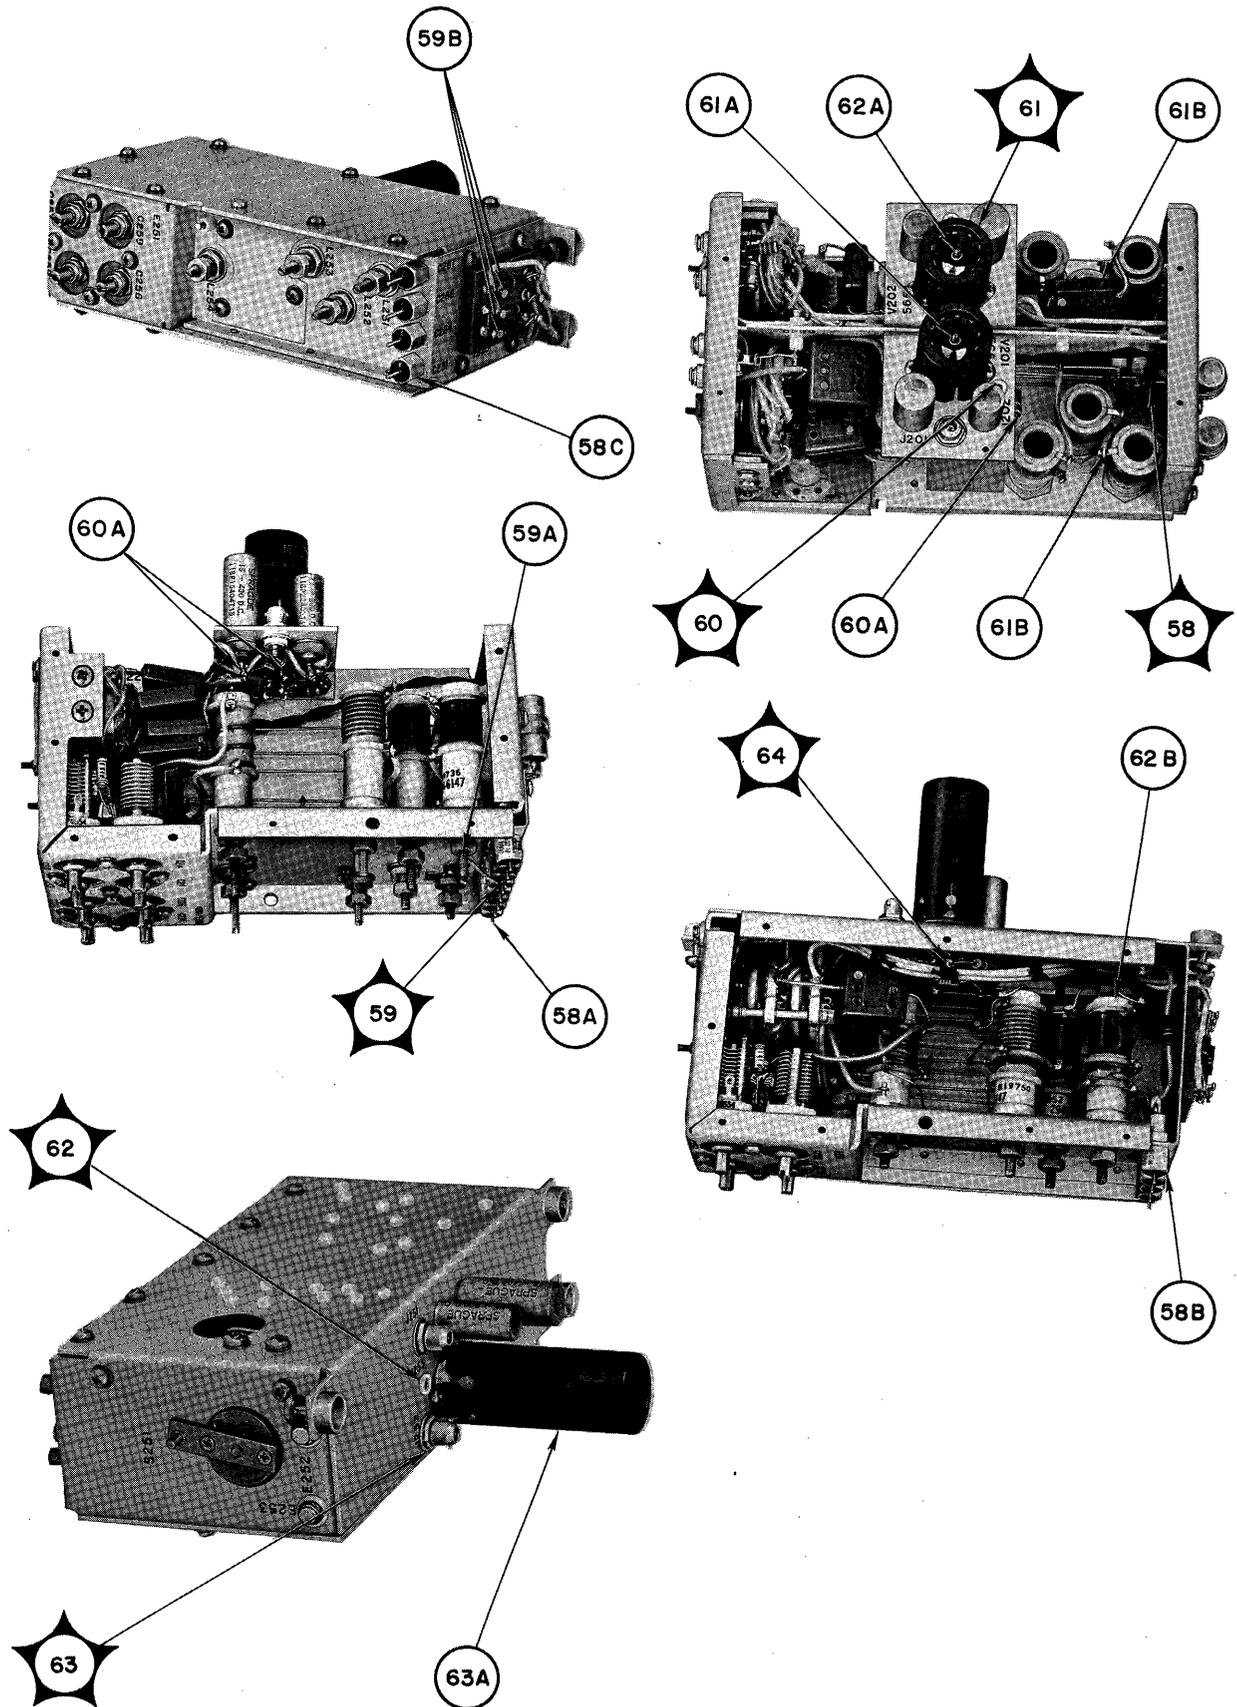

Figure 5-40. Harmonic Amplifier, Location of Test Points
f. HARMONIC AMPLIFIER TROUBLE-SHOOTING CHART.—Table 5-11 is the trouble-shooting chart for the harmonic amplifier. Perform each step in the order presented. Compare the result with information in the **NORMAL INDICATION** column and then follow the instructions in the **NEXT STEP** column. Figure 5-40 shows the location of test points. Table 6-5 gives voltage and resistance measurements at the tube sockets.